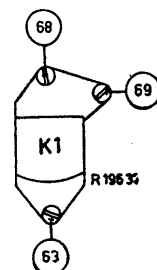

FIG. 15
- (b) After the turntable heights have been adjusted the record/play-back head K1 should be adjusted by means of the screws 63, 68 and 69, so that the face of the head is parallel to the tape and the height of the head is such that the tape will run freely through the head guide plate without twisting (see Fig. 15).
- (iv) Adjust screw 69 for maximum output voltage (see Fig. 15).